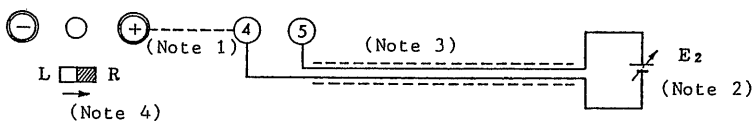

Figure 3-12
- o By connecting zener diode Dz ($V_z = 11$ V, 250 mW) between terminals ④ and ⑤ as shown in Figure 3-12, the output current can be limited at approximately 110% of the rated current even when the external resistance signal circuit